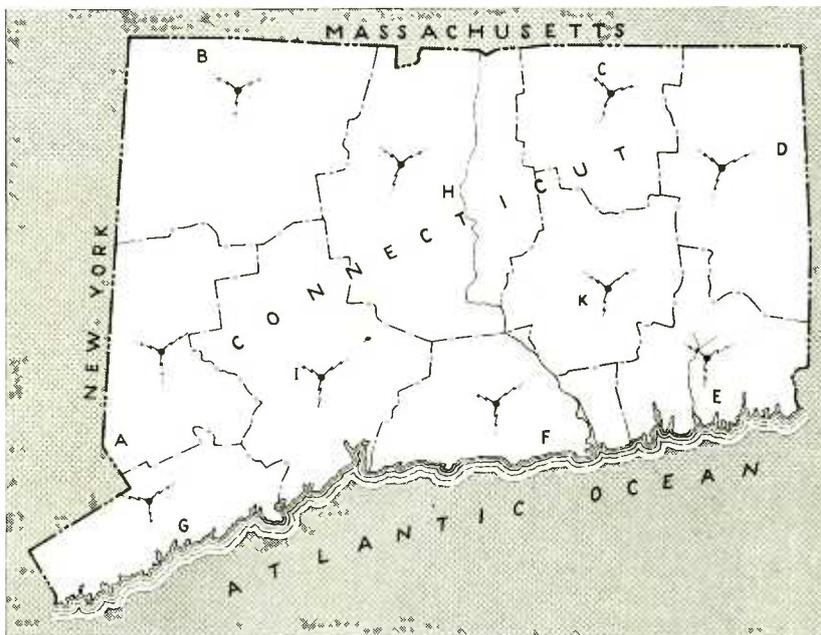

Fig. 1—Division of the State of Connecticut into troop areas, each served by a separate 250-watt fixed f-m station (locations shown by jagged lines)
**W**HEN the writer undertook to develop a state-wide emergency radio-telephone system for the Connecticut State Police in July 1939, the statement of the requirements did not specify whether one-way, two-way, intermediate frequency, ultrahigh frequency, amplitude modulation or frequency modulation was to be employed, but it was understood that the use of fm for the system would be investigated immediately. The problem may be clarified by a few facts about the operating conditions which must be met by the proposed system. The State is approximately ninety miles long by sixty miles wide with very rough hilly terrain over the entire area. Hills vary in height up to 2400 feet and the elevation changes are frequent and often precipitous. The heavy lines on the map of Fig. 1 divide the State into troop areas, showing that the ten troop units, or barracks, police the State with each unit operating from its own headquarters. Headquarter locations on the map are designated by capital letters. Obviously the headquarter locations and the troop areas were not selected with a view to the requirements of emergency service radio installations.